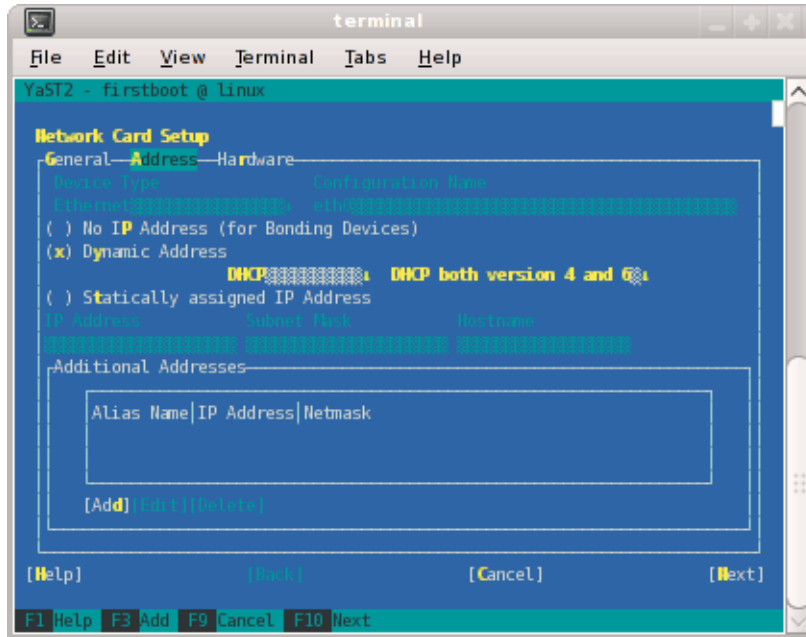

Figure 1-13 Network Card Setup Screen
8. The **Network Card Setup** screen appears, as shown in Figure 1-13 on page 20. SGI suggests using static IP addresses and not DHCP for admin nodes. Select **Statically assigned IP Address**. Once selected, you can enter the IP Address, Subnet Mask, and Hostname.